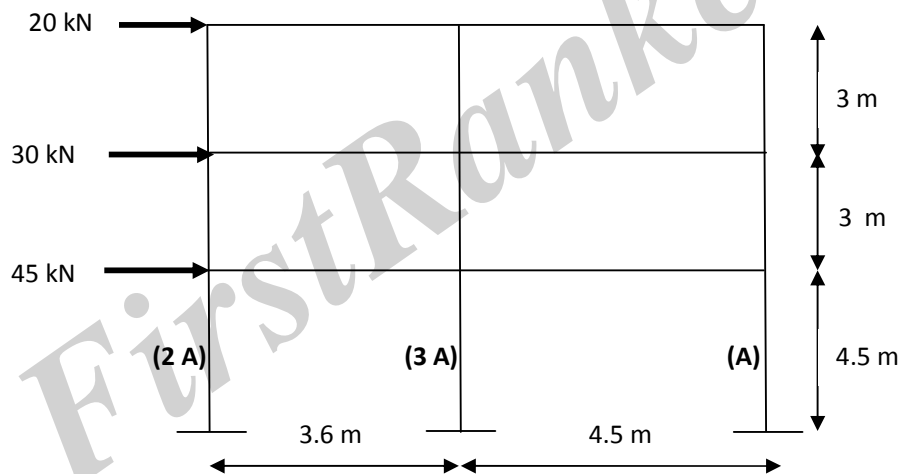

Fig.1
3. Analyse the frame shown in Fig.1, using Cantilever Method. Given within the paranthesis are the areas of the columns in that position.